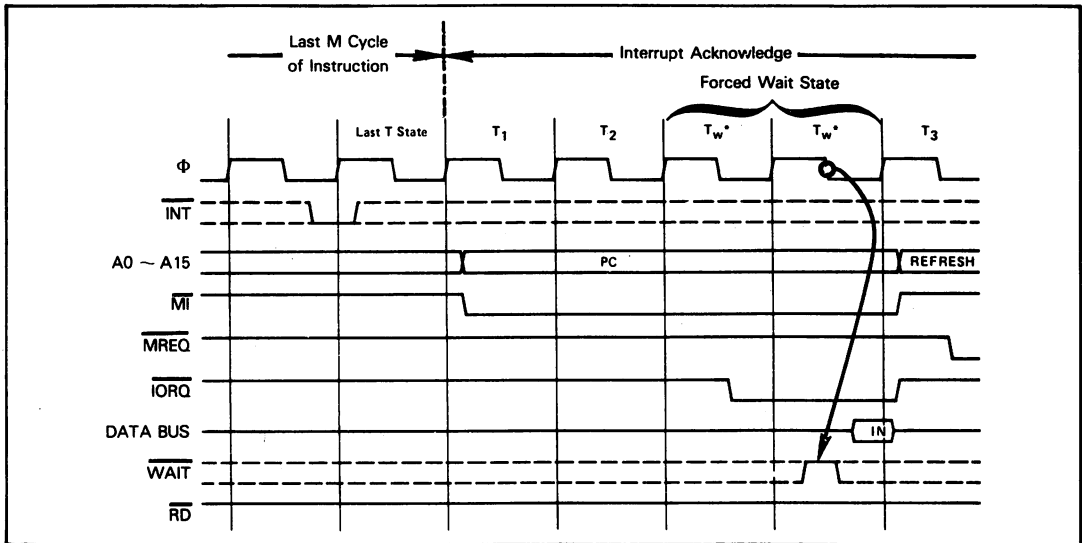

Figure 7-12. Z80 Response to a Maskable Interrupt Request
**Timing for  $\overline{\text{INT}}$  interrupt request and acknowledge sequence differs significantly from that of the 8080A interrupt request and is illustrated in Figure 7-12.**
The Z80 CPU acknowledges an interrupt request by outputting  $\overline{MI}$  and  $\overline{IORQ}$  low. This occurs in a special interrupt acknowledge machine cycle, as illustrated in Figure 7-12. Note that this machine cycle has two Wait states inserted so that external logic will have time for any type of daisy chained priority interrupt scheme to be implemented.